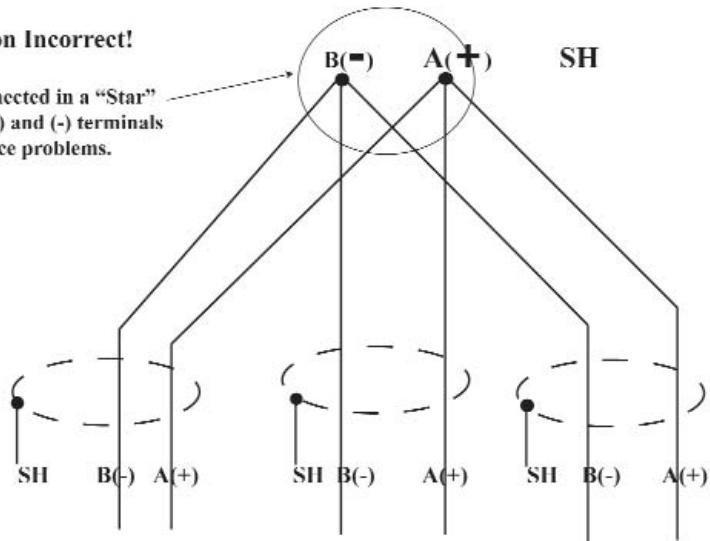

Figure 5.7: Incorrect "T" and "Star" Topologies
- Avoid both "Star" and "Tee" connections (see Figure 5.7).